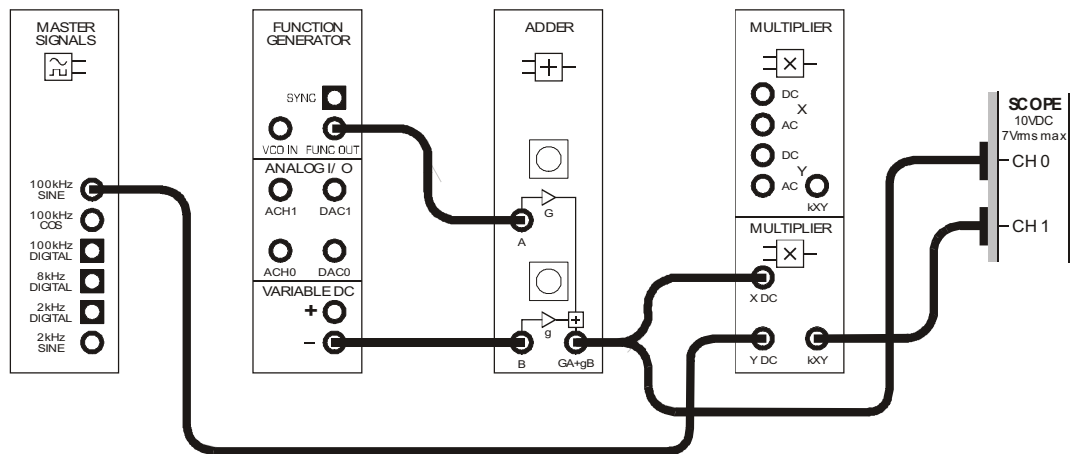

Figure 3
15. Connect the set-up shown in Figure 3 below.